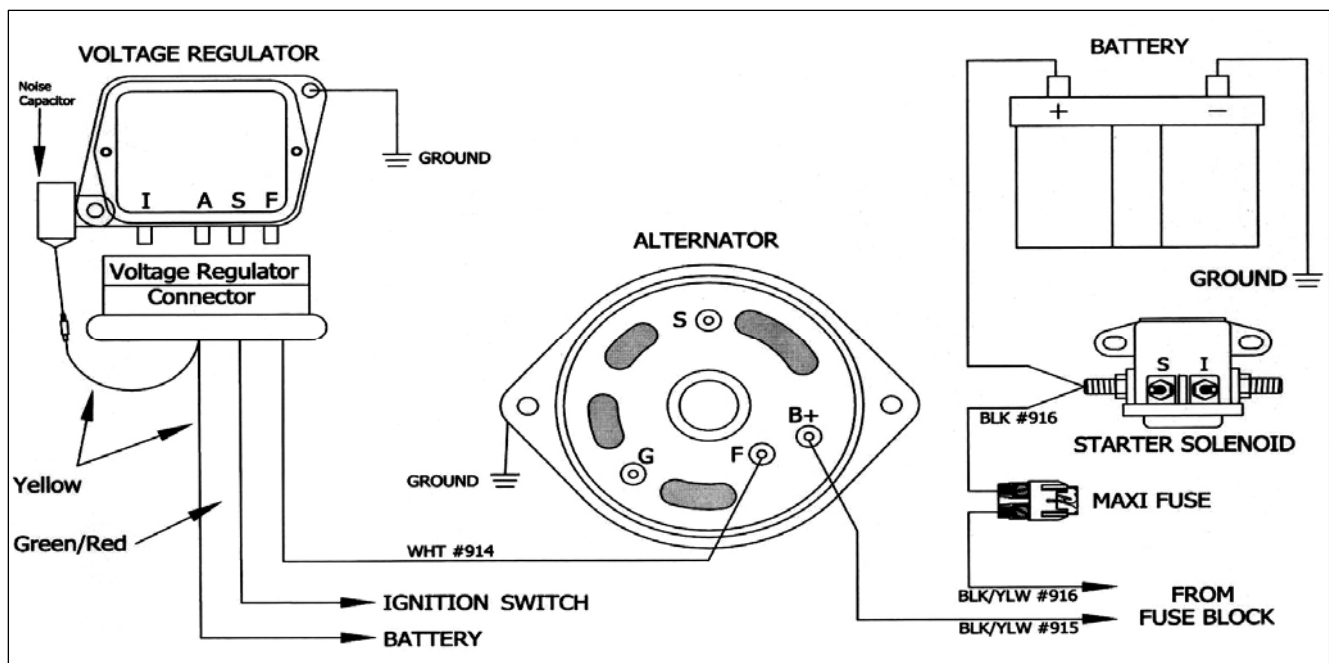

Figure 7-1 Alternator/Regulator/Solenoid Connections
7.1 Alternator/Regulator/Solenoid See Figure 7-1.
- 7.1.6 Connect HEADLIGHT SECTION wire #916 to one side of Maxi Fuse Base. Using the remaining portion of wire #916 connect the other side of the Maxi Fuse Base to the Battery side of the starter solenoid. See Figures 7-1, 7-3, & 7-4.